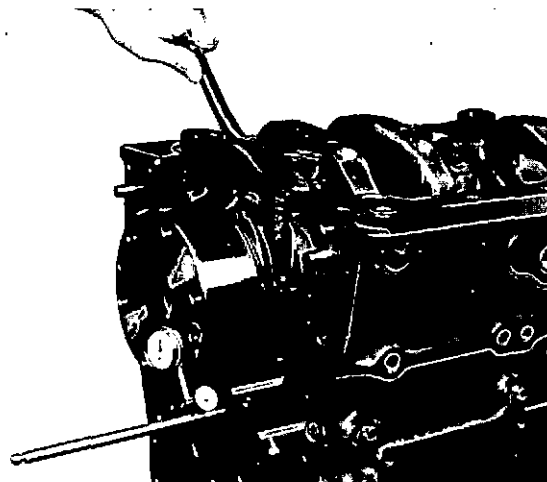

Fig. 14-7 (N114245). Measure The End Clearance Of The Crankshaft.
- d. Push the crankshaft toward the rear of the cylinder block, Fig. 14-7. Read the indicator to find the amount of end clearance.